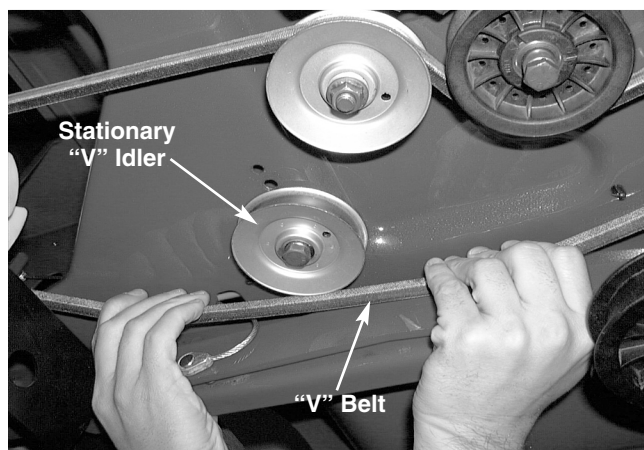

FIGURE 1.
4. Release the "V" belt slowly. See figure 1.